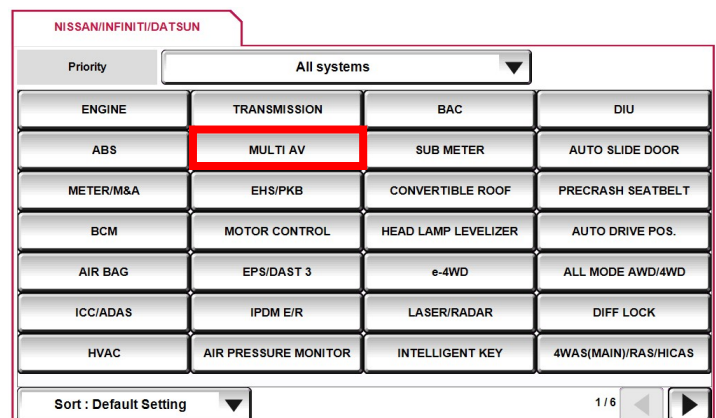

Figure 2
3. Select **MULTI AV**. (Figure 2)